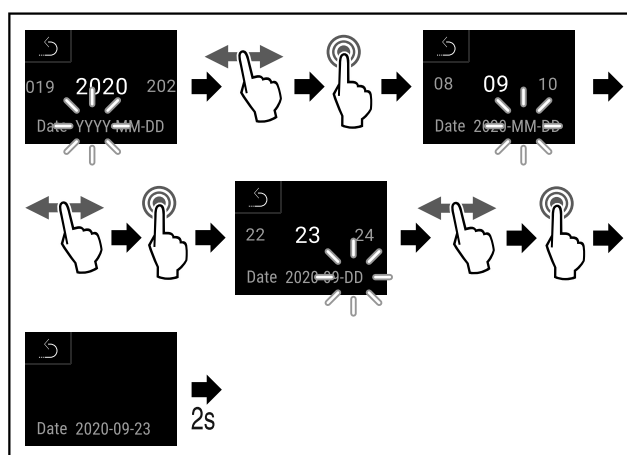

Fig. 107
- ▶ Complete steps (see Fig. 107).